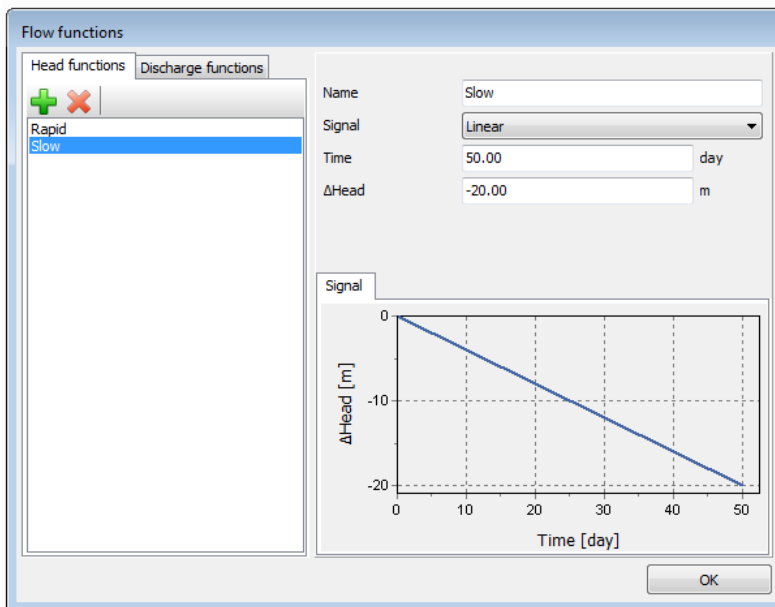

Figure 7.7 The flow function for the slow drawdown case
- Specify a time interval of 50 days. The window displaying the defined function is shown in Figure 7.7.